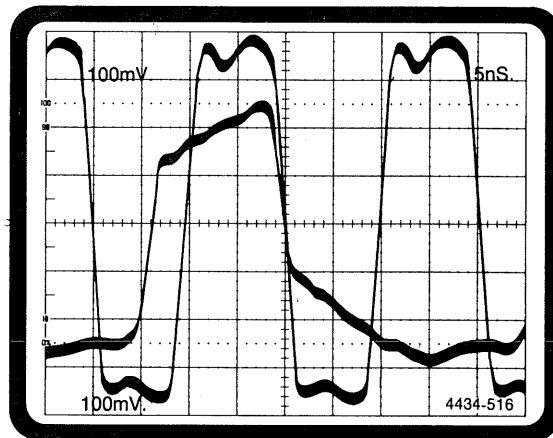

Figure 2-28. 318A Parallel data acquisition test waveform #2.
20. Adjust DD501 EVENTS LEVEL until the channel 2 waveform's falling edge crosses channel 1's falling edge at 0 V (mid-screen). See Figure 2-28 (14 ns setup, 0 ns hold).